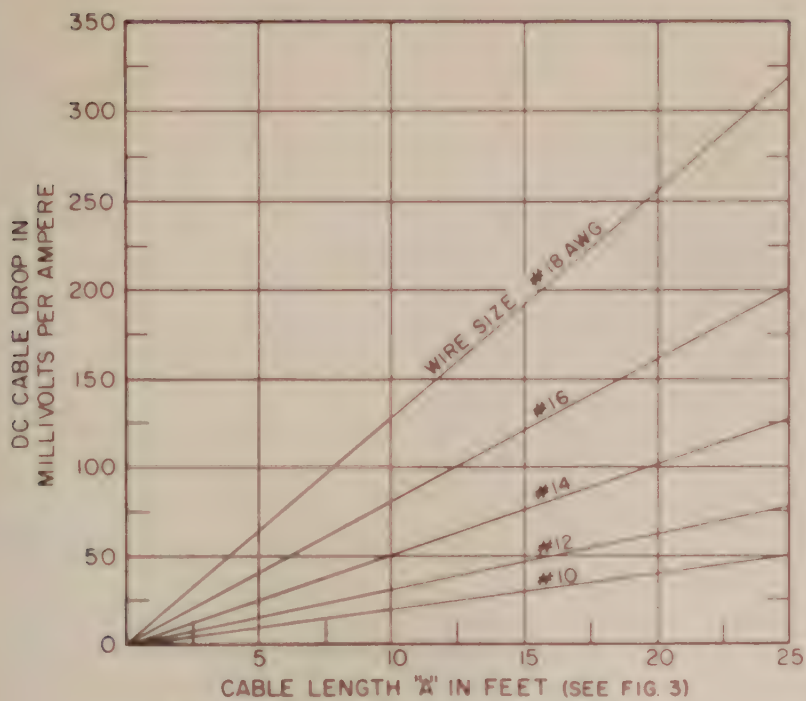

FIG. 1. 2-WIRE CONNECTION (SEE FIG. 4)
2. Determine load requirements, select wire size and length from figures 1, 2 and 3 and choose correct type of supply-load connection from figures 7 and 8 or 10 and 11. Refer to paragraph on Programmed Voltage Connections.